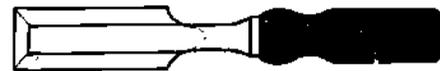

Figure 1-88. Tang Chisel
a) Wood chisels are made in a variety of sizes from 3 mm to 50 mm blade width. The blade lengths are generally from 50 mm to 150 mm. Wood chisels have a bevelled cutting edge, and are either the tang or the socket type, as shown in Figures 1-88 and 1-89. The shank has a point that fits into the handle. The point is called a tang. If the shank of the chisel is shaped like a tapered cup for the handle to fit into, it is called a socket chisel.